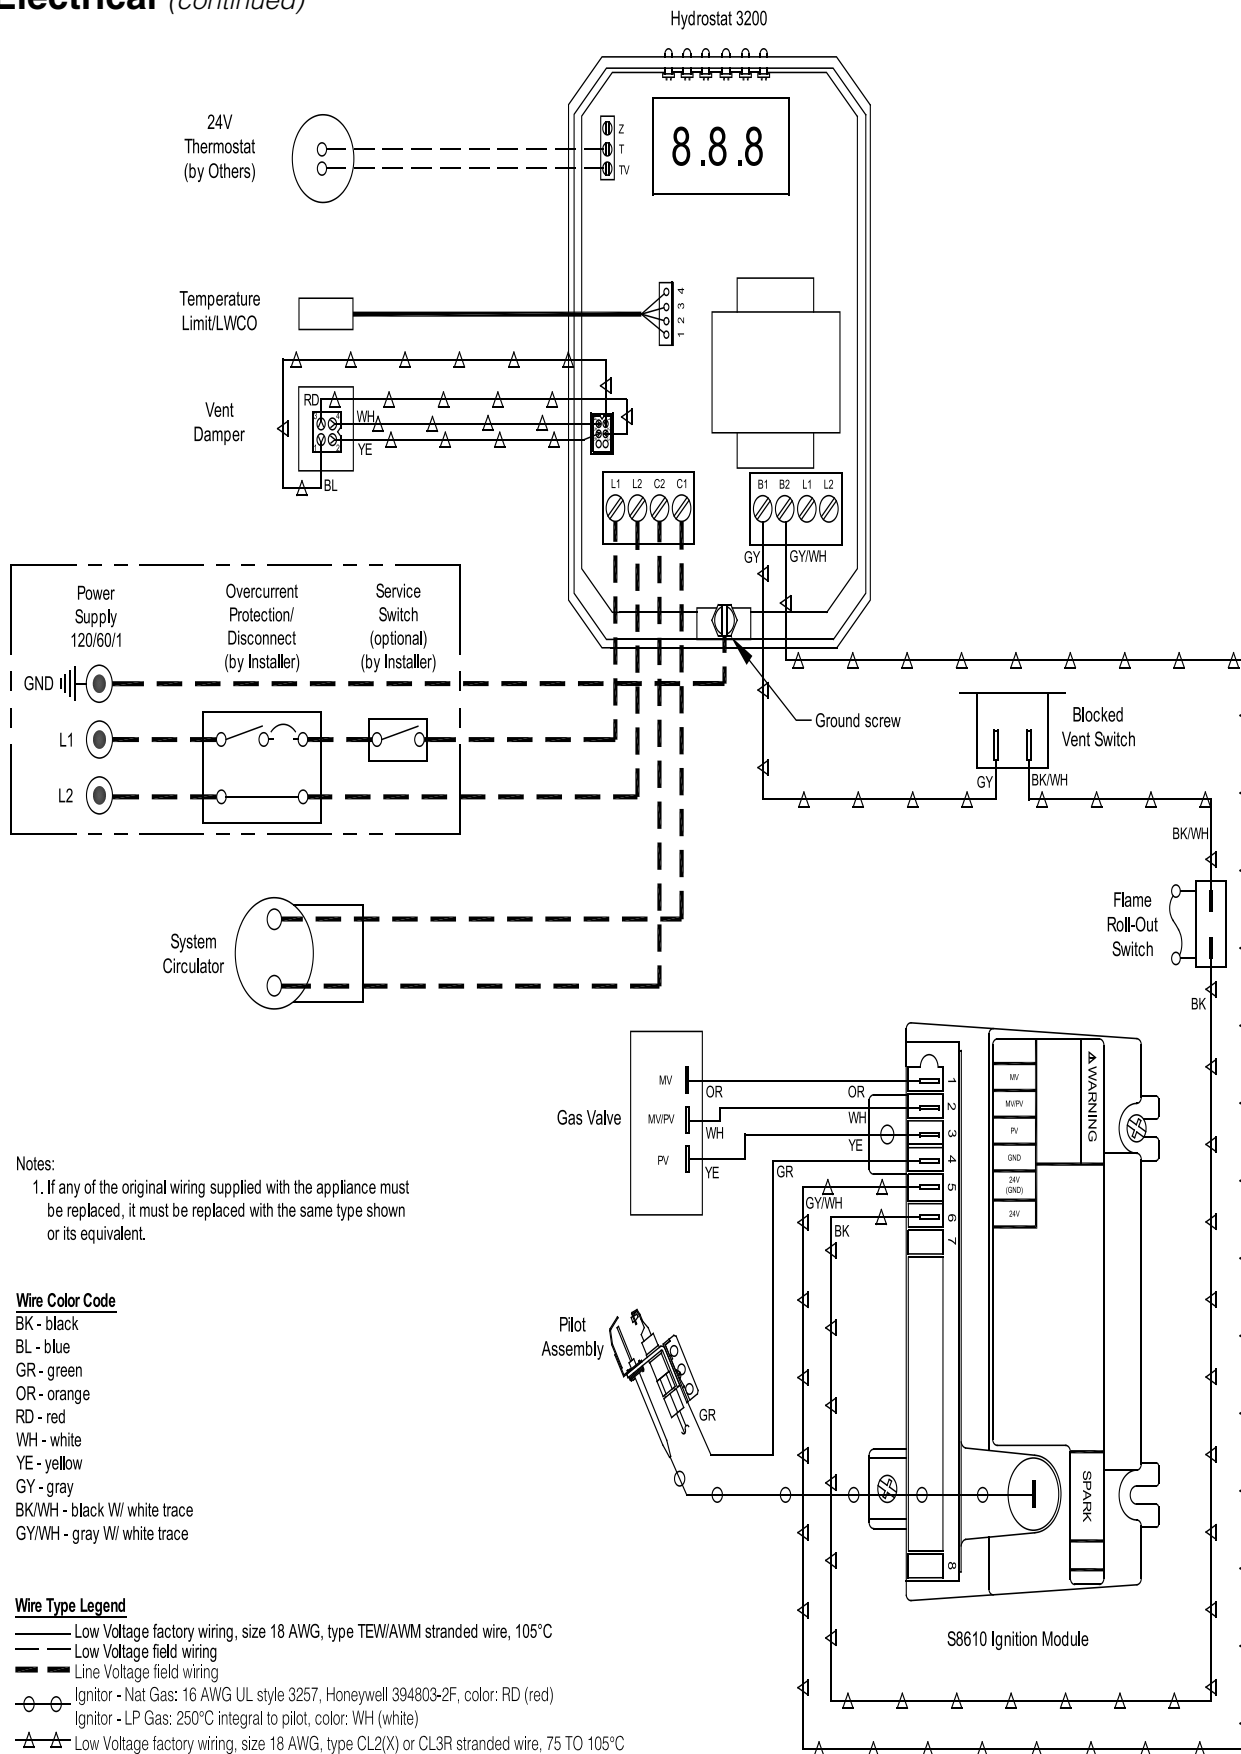

Figure 9-1: Wiring Connection Diagram
3. Wire boiler. Boiler is rated for 120 VAC, 60 hertz, less than 12 A. A separate electrical circuit must be run from main electrical service with an over-current device/disconnect in circuit. A service switch is recommended and may be required by some local jurisdictions. Connect to black and white wires and green ground screw. See Figures 9-1 and 9-2.